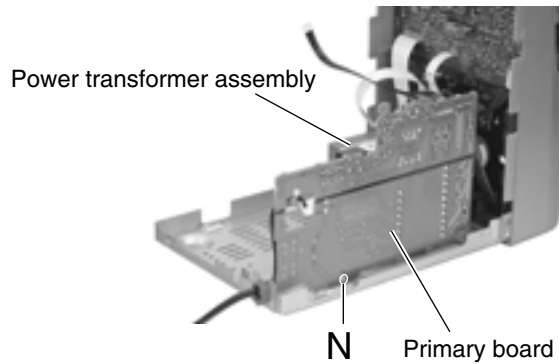

Fig.28
■Removing the power transformer assembly (See Fig.28, 29)